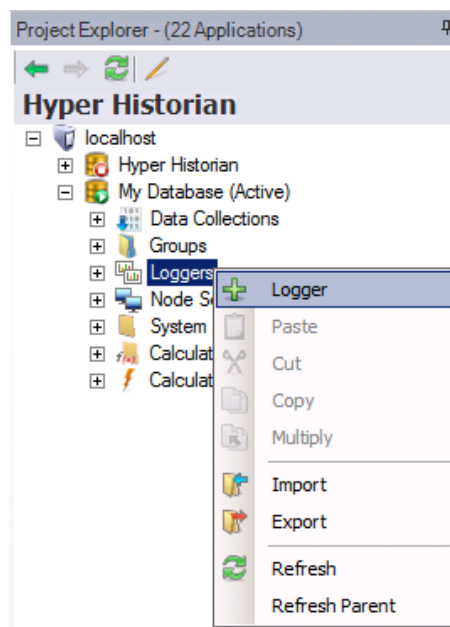

Figure L2.6 - Add New Logger
2. Right-click on **Loggers** and select **+ Logger**, as shown in Figure L2.6.